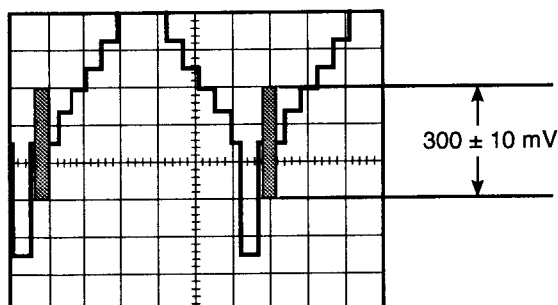

Fig. 5-37
- Adjust data with the **ARROW** keys so that the Burst level becomes 300 ± 10 mV as shown in Fig. 5-37.